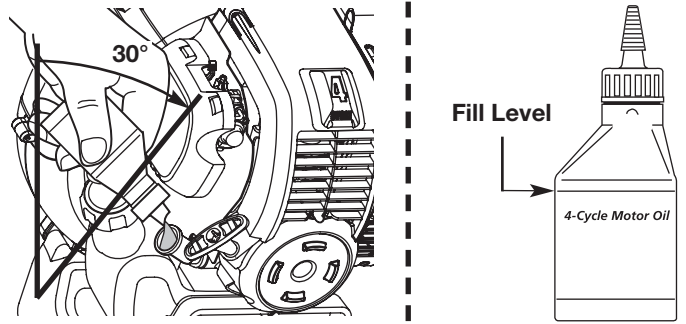

Fig. 22
4. Tilt the unit backwards 30° (Fig. 22).
- b Use the bottle and spout saved from initial use to measure the correct amount of oil. The top of the label on the bottle measures approximately 3.04 ounces (90 ml) (Fig. 22). Check the level, See *Checking the Oil Level*. If the level is low, add a small amount of oil and recheck. Do not overfill (Fig. 22).